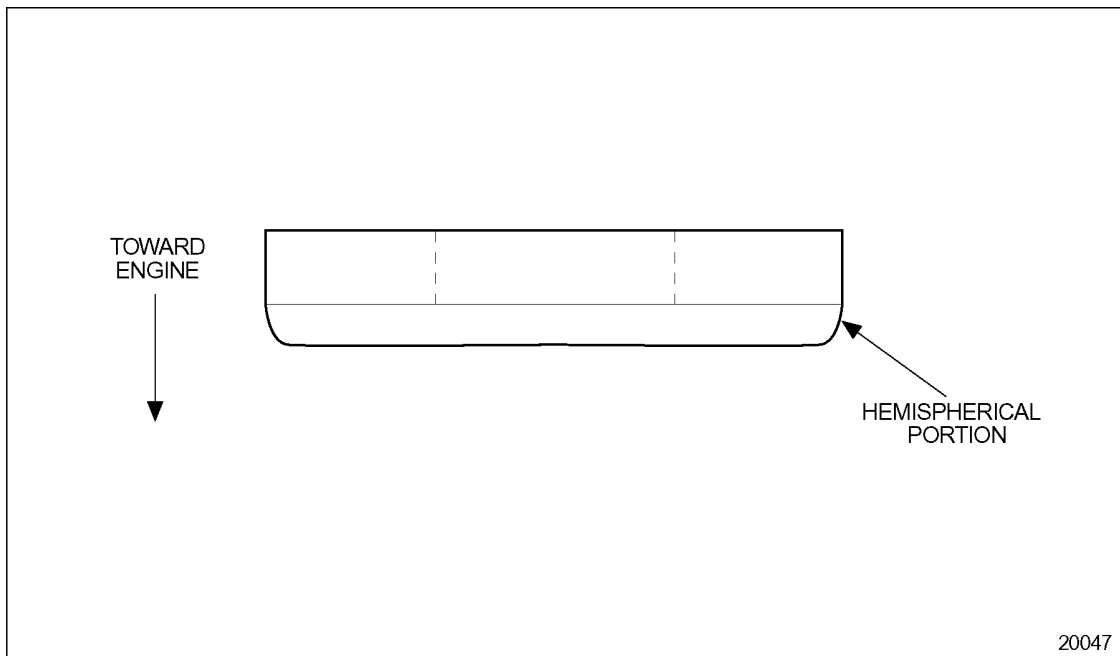

Figure 2-10 **Hold-down Crab Washer Installation**
8. Install the hold down crab, hemispherical crab washer (flat surface up against bolt) and hold down bolt to the injector. See Figure 2-10. Be sure that the clamp does not interfere with the injector follower spring or valve springs.
The hemispherical portion of the hold-down crab washers must be installed facing the crab (pointing down) in order to prevent damage to the washers. See Figure 2-10.